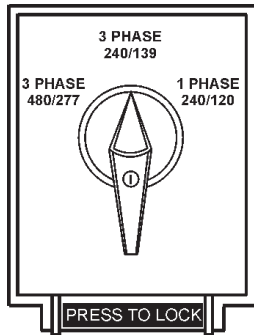

Figure 22. Voltage Selector Switch 240/139V Three-Phase Position
1. Place the voltage selector switch in the 3Ø 240/139V position as shown in (Figure 22).